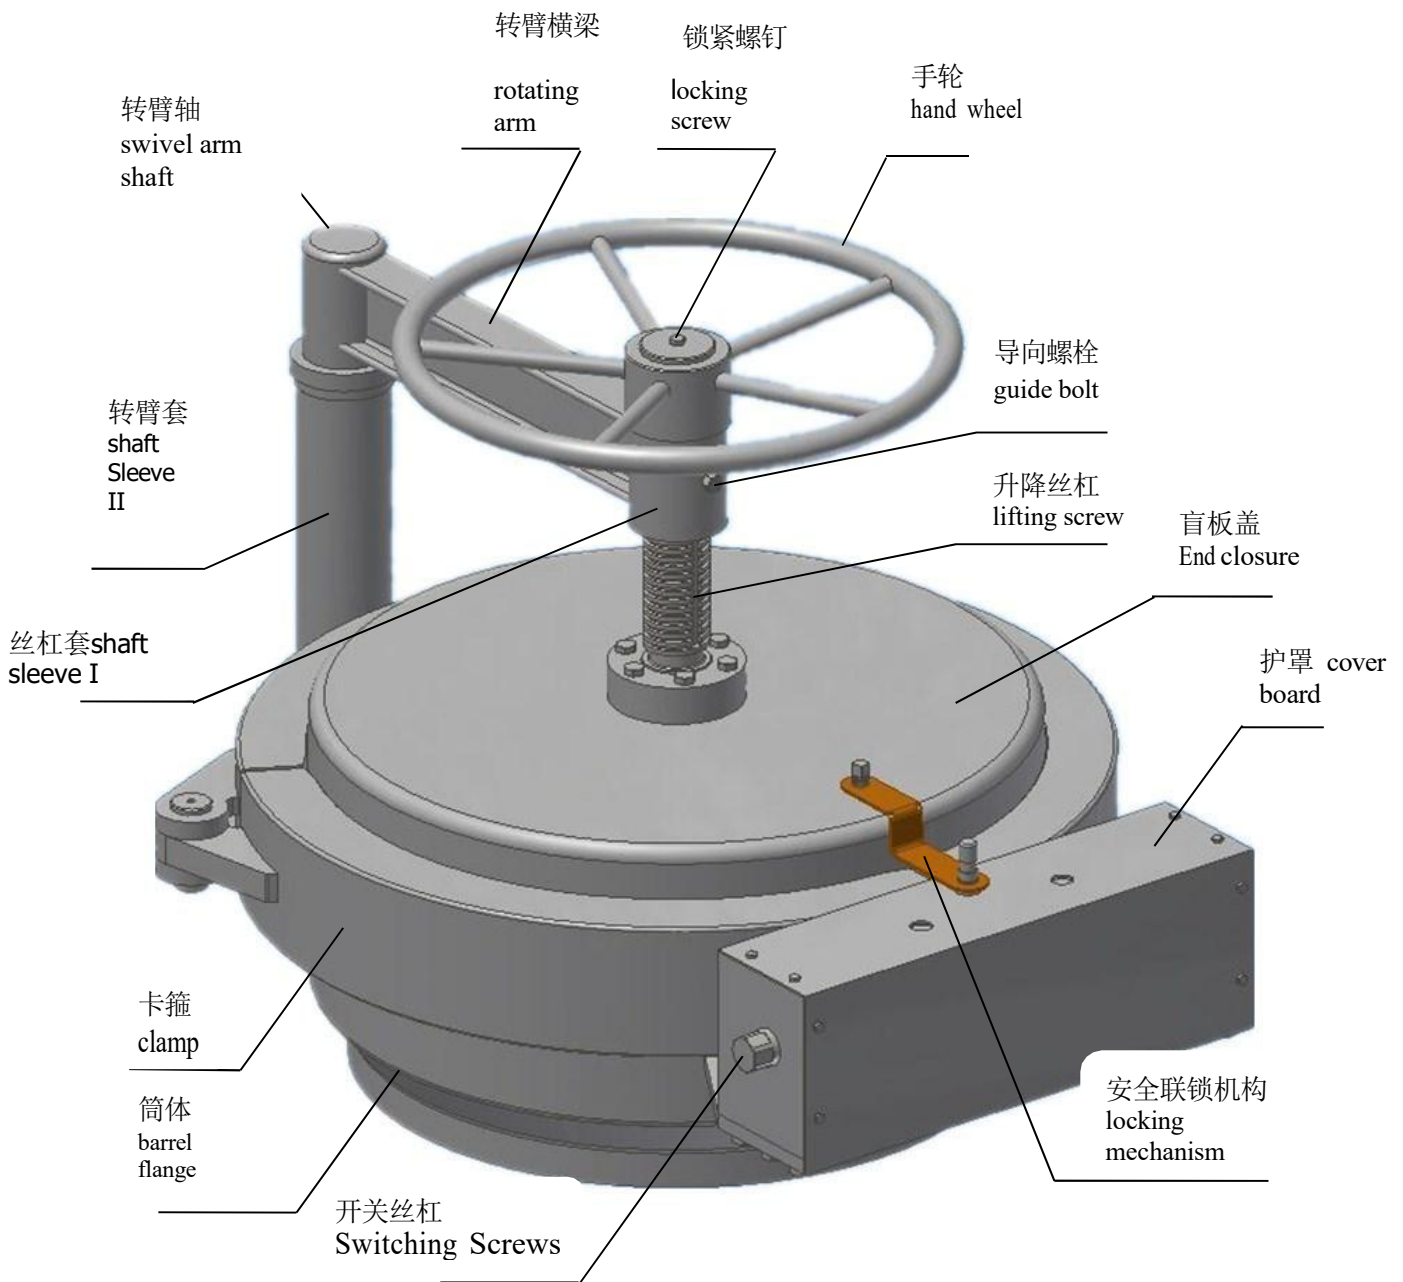

图 1 (picture 1)
2)按图 1 所示，a.卸下手轮中心锁紧螺钉 b. 卸下手轮 c. 卸下转臂轴下端螺母 d.拧松导向螺栓；
2)As shown in Figure 1, a. Remove the hand wheel center locking screw b. Remove the hand wheel c. Remove the locking nut on the lower end of the swivel arm shaft d. Loosen the guide bolt.